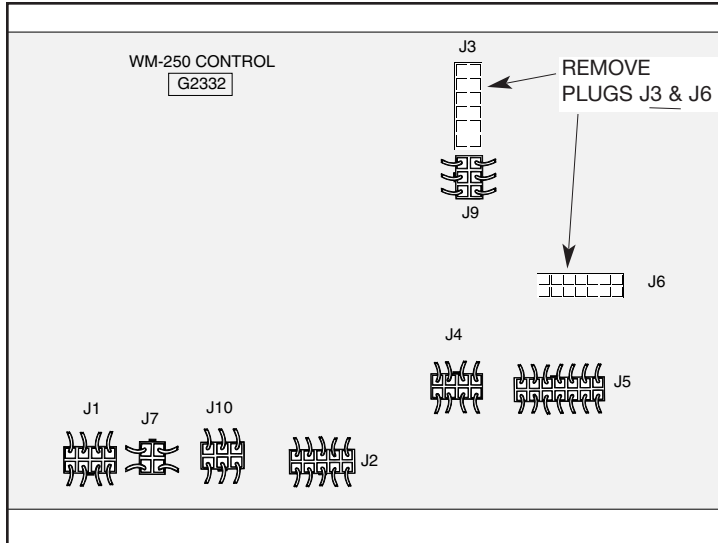

FIGURE F.2 - Remove Plugs J3 and J6 to Perform Static SCR Rectifier Assembly Test.
2. Disconnect Plugs J3 and J6 from the G2332 Control Board. This electrically isolates the SCR bridge assembly. See Figure F.2.